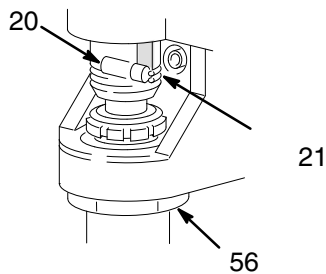

Fig. 24 01579
5. Use a screwdriver to push aside the retaining spring (21) at the top of the pump. Push the pin (20) out the rear. See Fig. 24.
6. Push the retaining spring (21) up. Push the pin (20) out the rear.